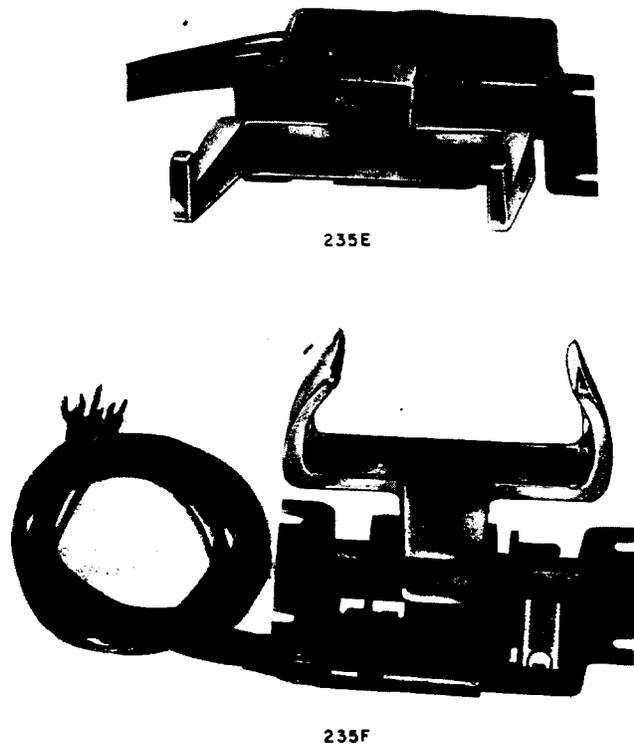

Fig. 13—235E and F Line Switch
**2.35** The *235E and F* switches (Fig. 13) are card operated line switches having contacts arranged for use with speakerphone and 1A, 1A1, or 1A2 Key Telephone Systems.